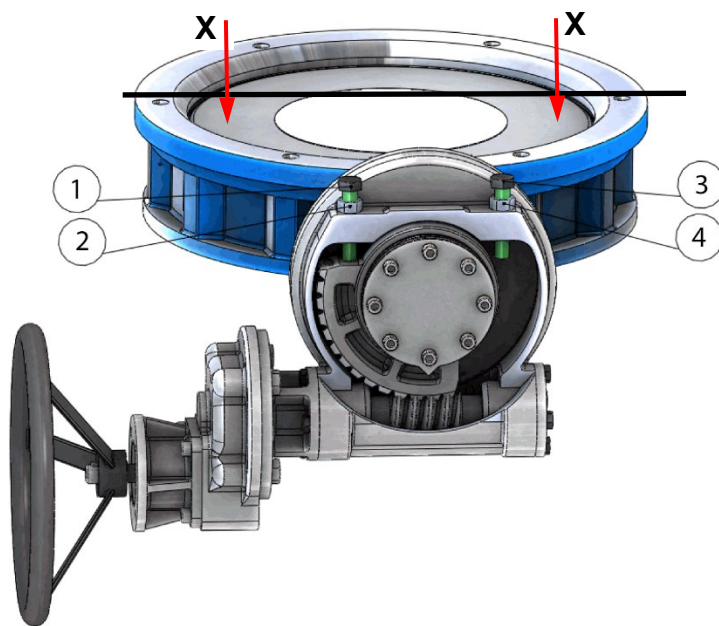

Fig. 9: Measuring distance “X”.
– Open the manual gear travel limit locking bolts (pos.1 / pos.3), and open adjustment screws nuts (pos.2 / pos.4) – see Fig.9.
– Turn valve into closed position, so that the disk is parallel to the seal. Right position checked by measuring the distance X from flange of the valve to the disk surface. (Fig. 9). The distance must be equal on both sides of the disk.
– Adjust stopper of “Close” position in manual gear. Turn adjustment screw (pos.2) gently until its movement stops. Tighten locking nut (pos.1).
1. The limit switcher in the closed position must stop the turning of the disk when the disk is parallel to the seal. Ensure the correct position of the valve disk by measuring distance "X" (Fig. 9). The measure must be the same on both sides of the disk.